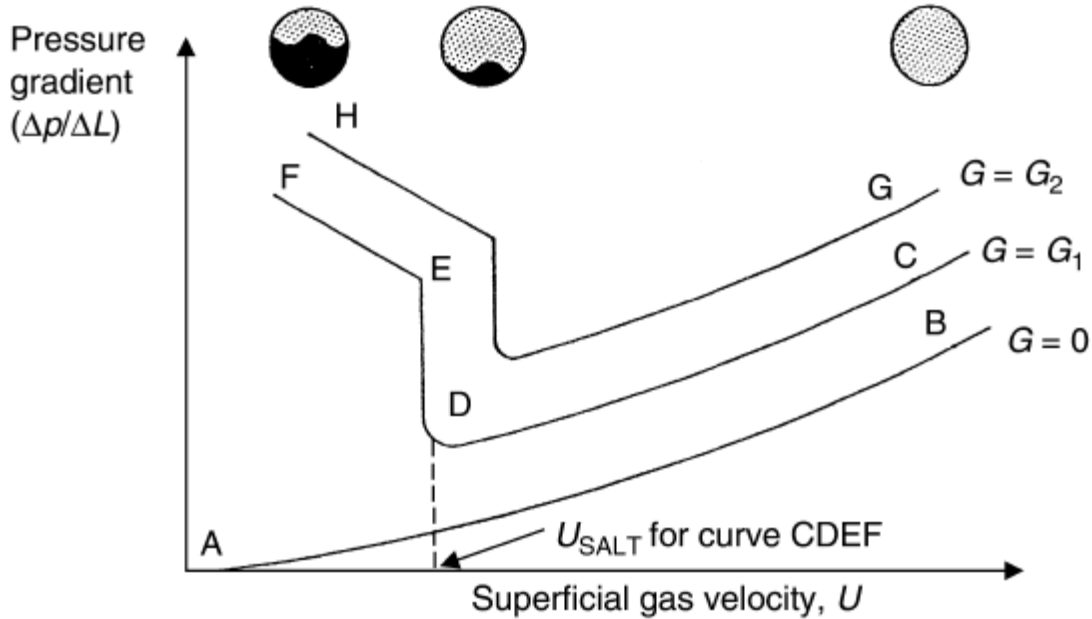

Fig. 1: Phase diagram for dilute phase horizontal pneumatic transport
- c. The general relationship between gas velocity and pressure gradient $\Delta P/\Delta L$ for a horizontal transport line is shown in **Fig 1**. Line AB represents the